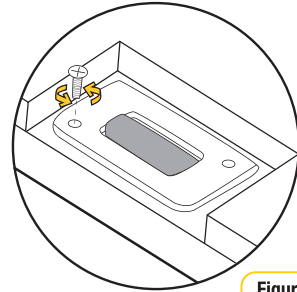

Figure 2
**Step 2:** Continue to extend until the adjuster has reached the desired location at the side of the restraint (refer Figure 2).
- Turn the Child Restraint upside down, to access from the bottom (refer Figure 2).
**Step 3:** Remove the screw and lift the 3 bar plate (refer Figure 2 and 3).